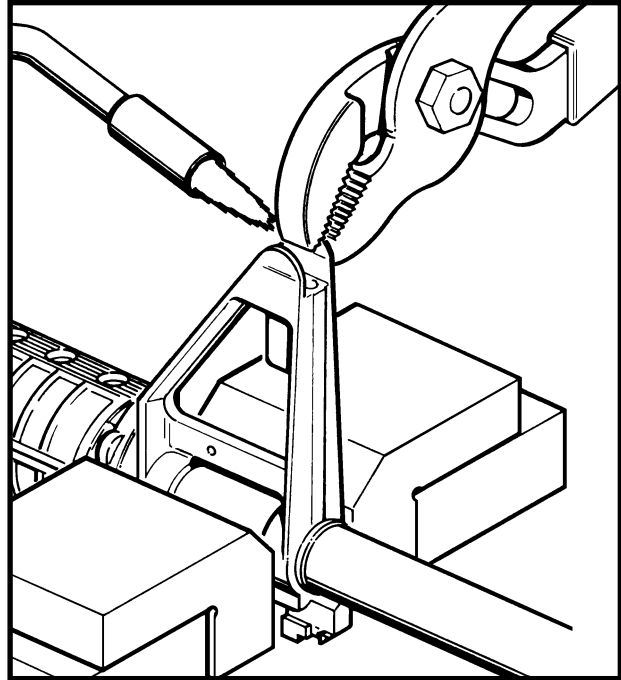

Figure 3-2-21 Reforming the Front Sight Protector
- (iv) Reform the bent front sight protector with slip joint pliers. See Figure 3-2-21;
- (4) Remove carbon from the gas tube hole of the front sight using a 5.56 mm bore brush;
- (5) Replace loose or missing barrel indexing pins; and
- (6) Replace barrel assemblies that have defective barrels.